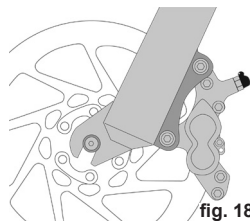
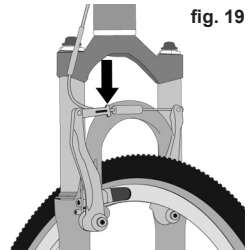

fig. 18
fig. 19
1. If your e-bike has rim brakes, disengage the brake's quick-release mechanism to increase the clearance between the tire and the brake pads. **Refer to Page 57, Section 11: "Tech", subsection C: "Brakes", figs. 18 through 22.**
1. If you have a multi-speed e-bike with a derailleur gear system, shift the rear derailleur to high gear (the smallest, outermost rear sprocket). If you have an internal gear rear hub, do not attempt to remove the rear wheel. Consult your authorized retailer or the hub manufacturer's instructions for additional information. If you have a single-speed e-bike with rim or disk brake, go to step (4) below.
2. If your e-bike has rim brakes, disengage the brake's quick-release mechanism to increase the clearance between the wheel rim and the brake pads. **Refer to Page 57, Section 11: "Tech", subsection C: "Brakes", figs. 18 through 22.**
3. Some bicycle brakes, such as disc brakes (fig. 18) and linear-pull brakes (fig. 19), are extremely powerful. Take extra care in becoming familiar with these brakes and exercise particular care when using them.
Most rim brakes have some form of quick-release mechanism to allow the brake pads to clear the tire when a wheel is removed or reinstalled. When the brake quick-release is in the open position, the brakes are inoperative. Ask your authorized retailer to make sure that you understand the way the brake quick-release works on your e-bike (**see figs. 19, 20, 21 & 22**) and check each time to make sure both brakes work correctly before you get on the e-bike.